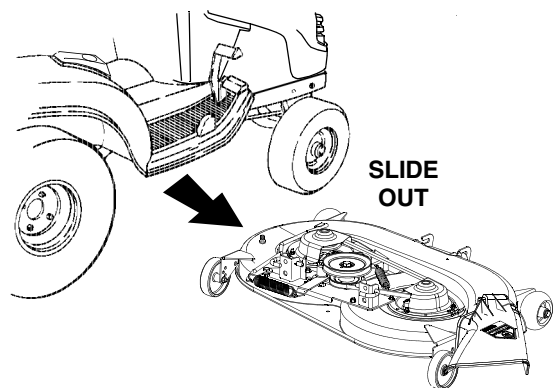

Figure 43
10. With the tractor implement lift handle raised to its highest setting, slide the deck to the right and out from under the tractor (See Figure 43).
2. Refer to Figure 43 and position the deck on the right side of the tractor with the front of the deck facing toward the front of the tractor. Raise the tractor implement lift handle to its highest setting and slide the deck under the tractor.